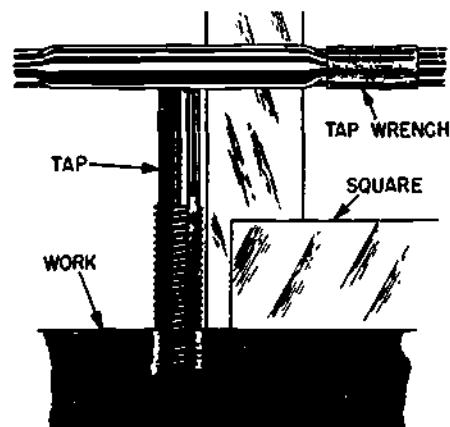

Figure 17-36. Tapping Procedure
e) The tap should be square with the work as shown in Figure 17-36.